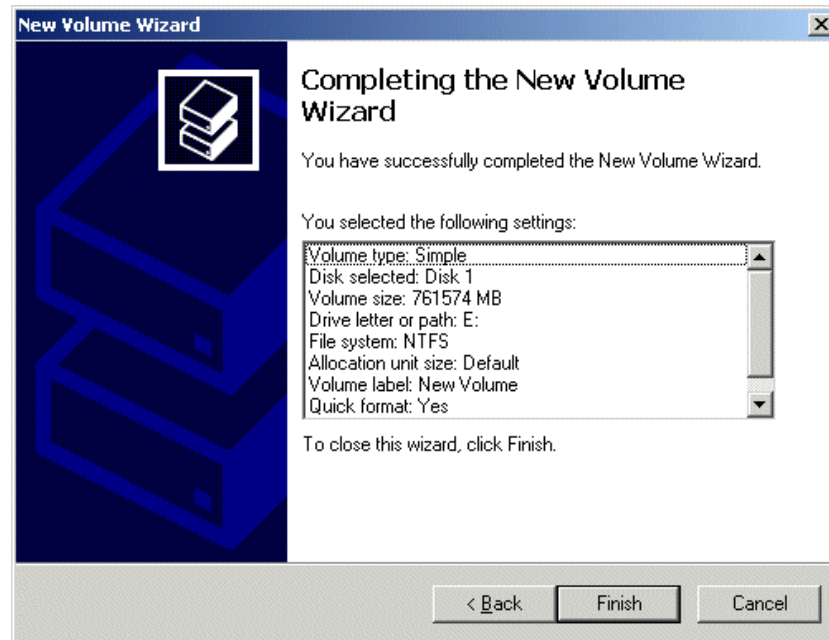

Figure 6-29. The Completing the Wizard dialog
- 31) Click the **Next** button to be presented with the **Completing the New Volume Wizard** screen as shown in Figure 6-29.